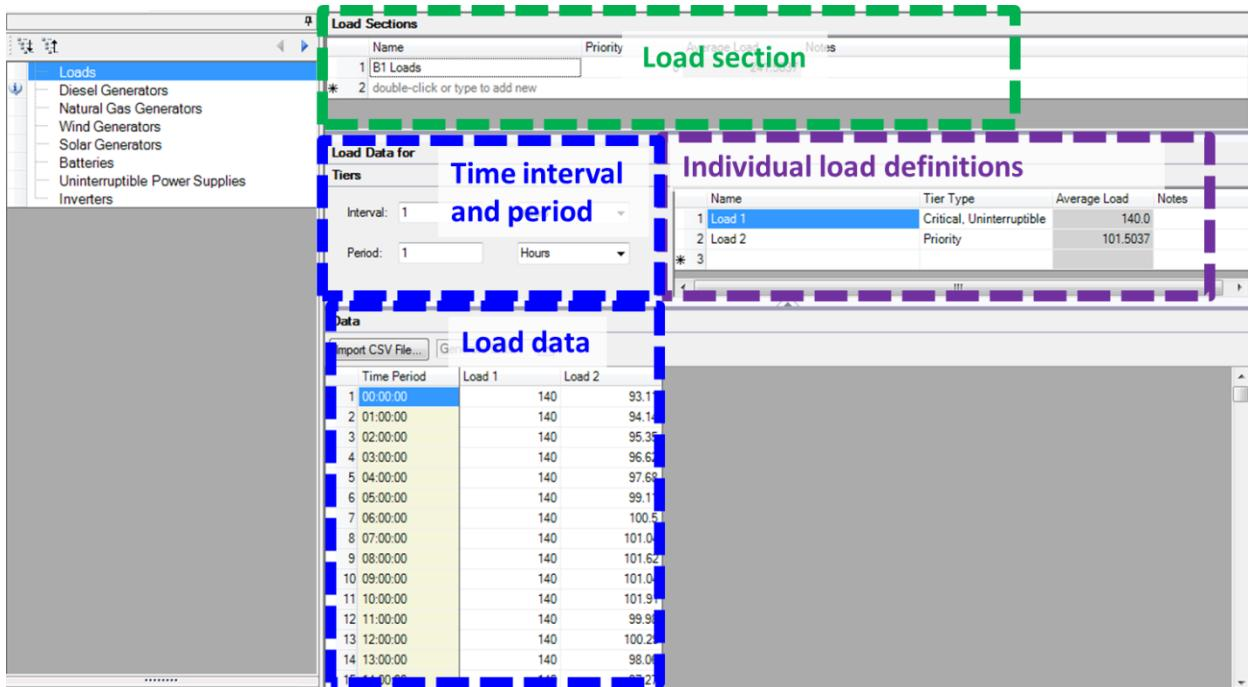

Figure 32. Load section page overview.
#### Load Section (highlighted in green in Figure 32)
- **Individual loads** (highlighted in purple in Figure 32)
- **Load Data** (highlighted in blue in Figure 32)
- **Data** (highlighted in blue in Figure 32)